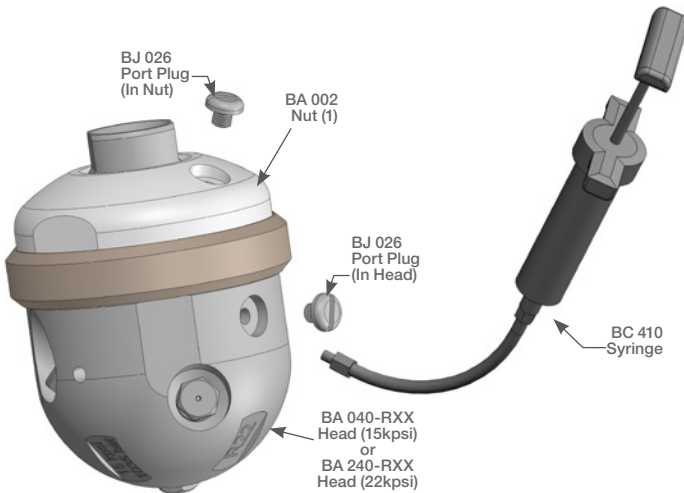

Figure 1: Viscous Fluid Flush
1. Remove the Port Plugs (BJ 026) in the Nut (BA 002) and Head (BA 040-RXX) (see Figure 1).